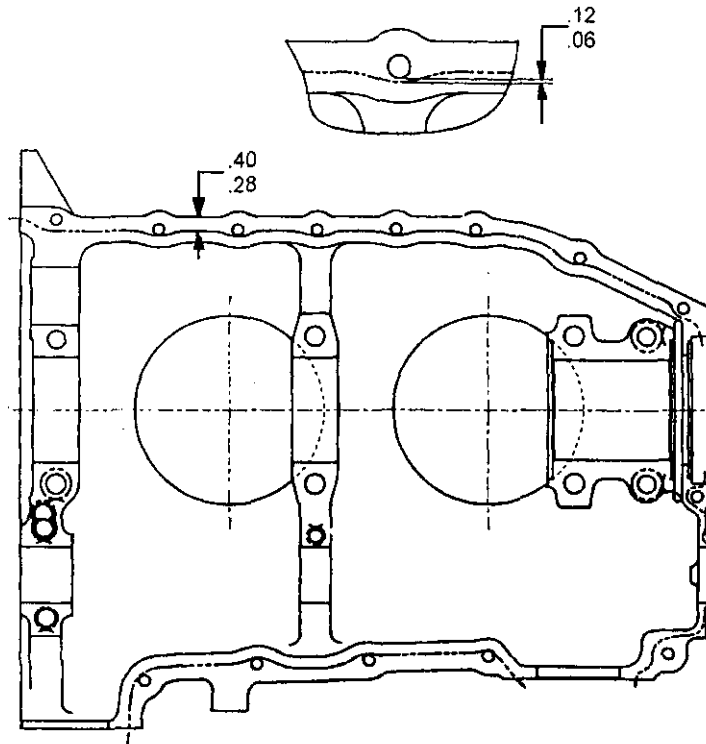

FIGURE 3. I0240 CRANKCASE THREADING DIAGRAM
4. Apply and position grade D silk thread P/N 641543 on 2-4 case half as specified in Figure 3. Be sure free ends of thread are covered by gaskets except at the nose oil seal.